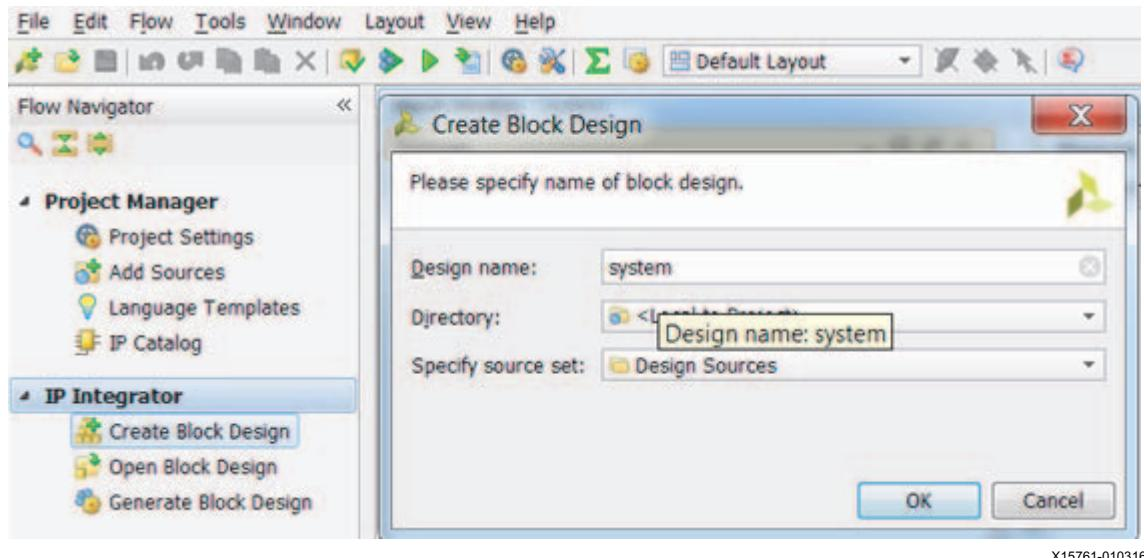

Figure 14: Create Block Design
- a. In the resulting dialog, name the design system (see Figure 14).